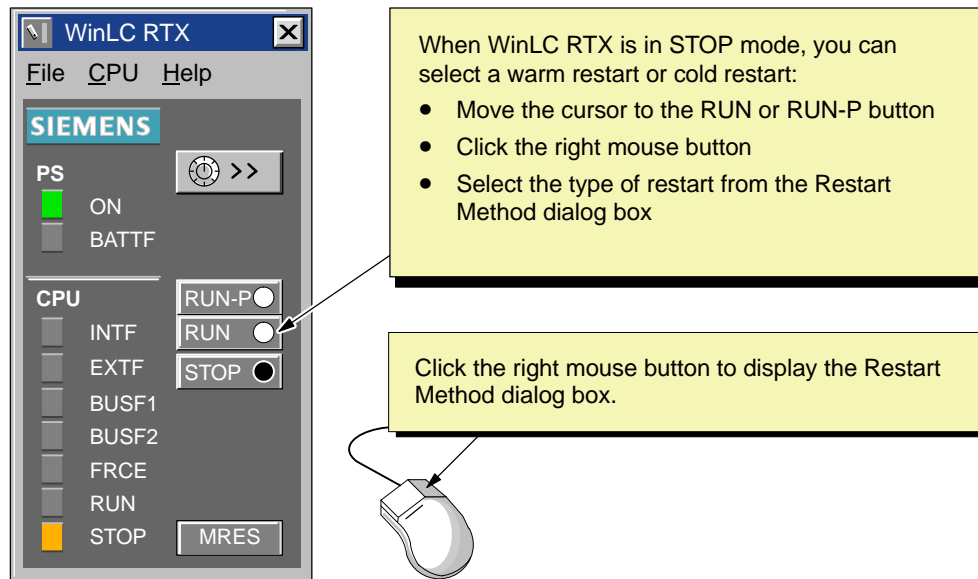

Figure 4-9 Using the Right Mouse Button to Select the Restart Method
- As shown in Figure 4-9, using the right mouse button to click on the “RUN” or “RUN-P” buttons displays the “Restart Method” dialog box that allows you to select a cold restart or a warm restart.